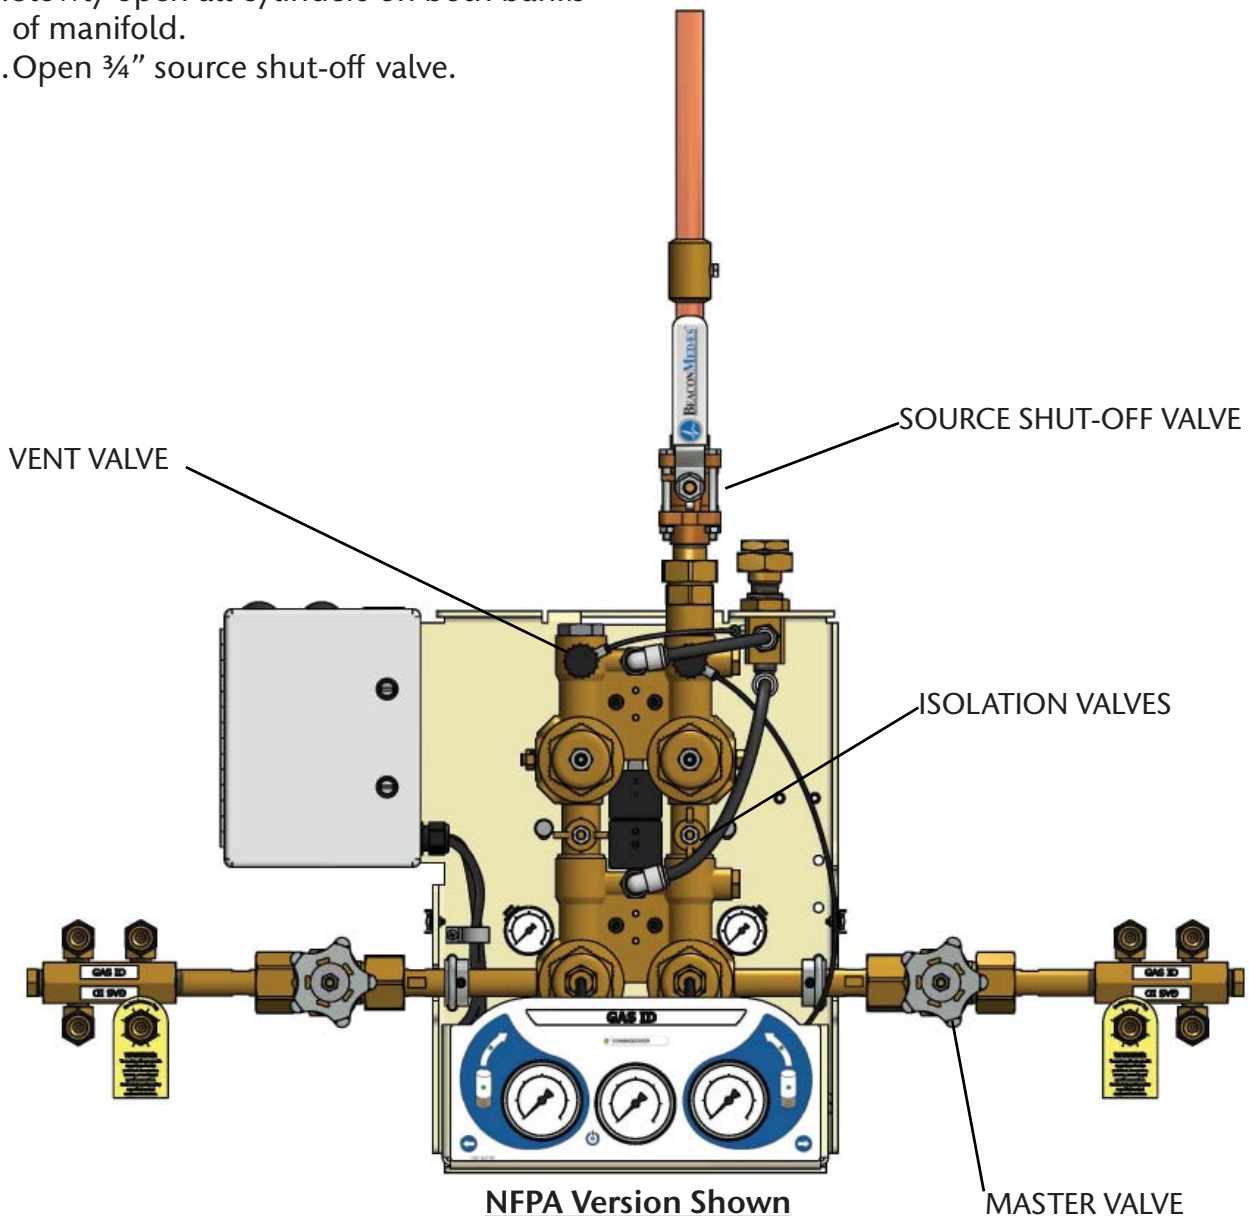
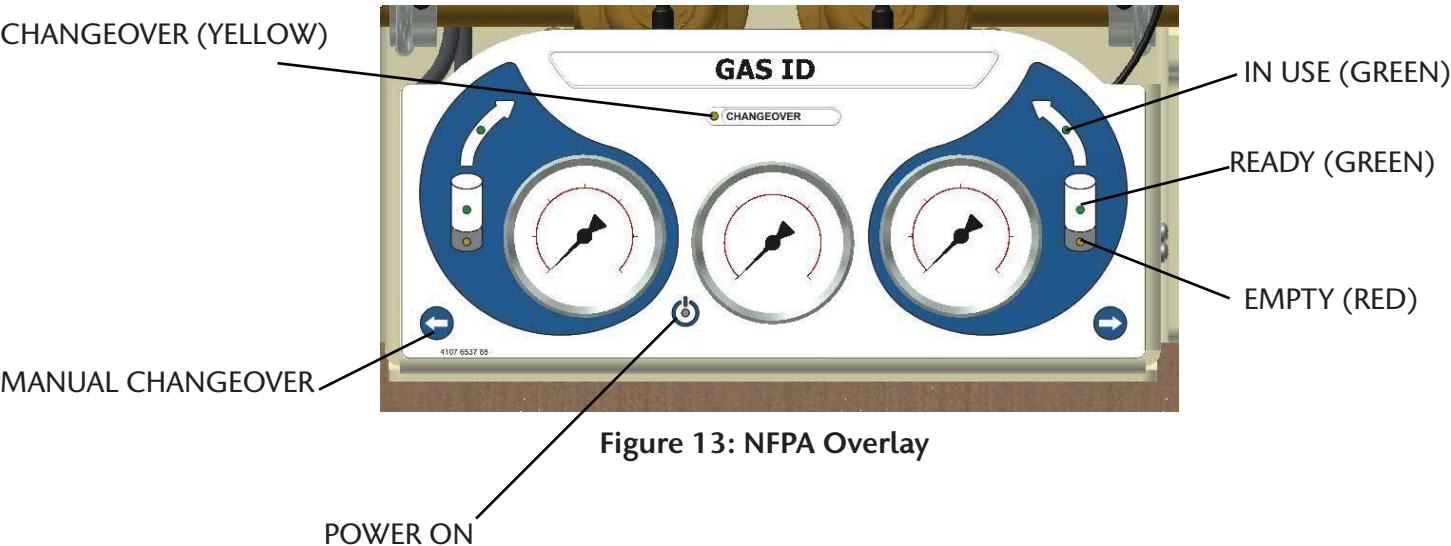

Figure 12
Figure 13: NFPA Overlay
2. Verify the following: (Refer to Figure 12 for component location and Figure 13 & 14 for Light Location).
8. Close right bank cylinder. Slightly open vent valve (Figure 12). Verify the following:
Refer to Figures 13, 14, 15 & 16.